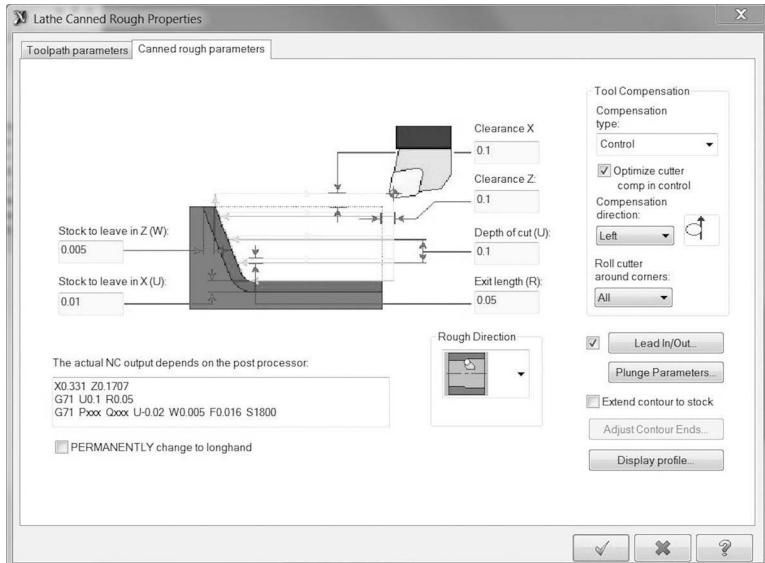

Figure 5-79 Bore
- For the Canned rough parameters tab, change the entries to match Figure 5-79.